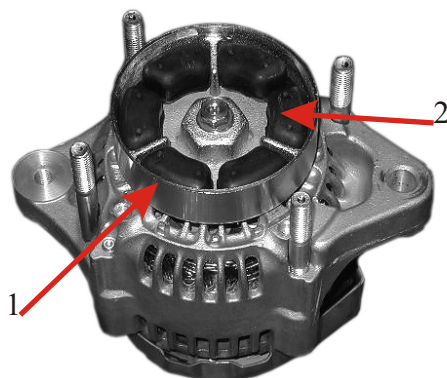

Fig. 115.
- Do the damper housing to the torque of 30-50 N-m using wrench 346-709 (Fig. 115, Pos. 1)
- Install three rubber dampers into the damper housing (Fig. 115, Pos.2)